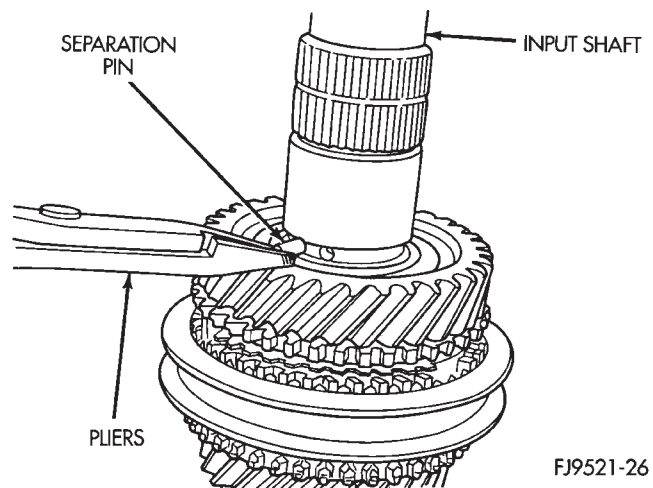

Fig. 100 Split Thrust Washer Separation Pin Installation
- (4) Install 3-4 synchronizer snap ring into slot on input shaft.
- (5) Install blocking ring into 3-4 synchronizer. Install 4th gear caged needle bearing.
- (6) Install 4th gear onto input shaft.
- (7) Install 4-5 split thrust washer separation pin (Fig. 100).